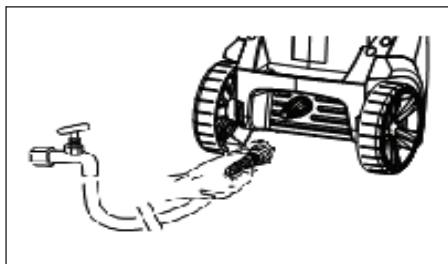

Figure 13 - Attach garden hose to unit (model PW1825)
4. Attach garden hose to unit (see Figure 13 and 15).
9. Attach garden hose to unit (see Figure 13 and 15).